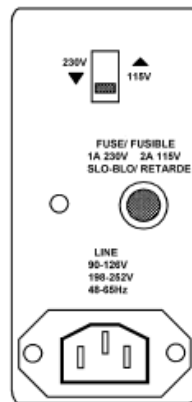

Figure 1
- c. Check the fuse in the rear panel of the 1250/1254A. The fuse can be found and checked as shown in Figure 1, below. Should the fuse be blown, replace and retry. If the fuse fails again, please contact help at AMETEK®/Solartron Analytical at <http://www.ameteksi.com/contact-us/contact-technical-support> .